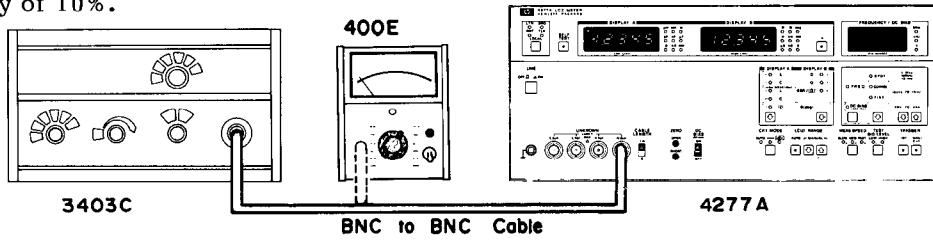

Figure 4-2. Test Signal Level Accuracy Test Setup.
1. Connect the 3403C to the 4277A UNKNOWN HCUR terminal as shown in Figure 4-2.